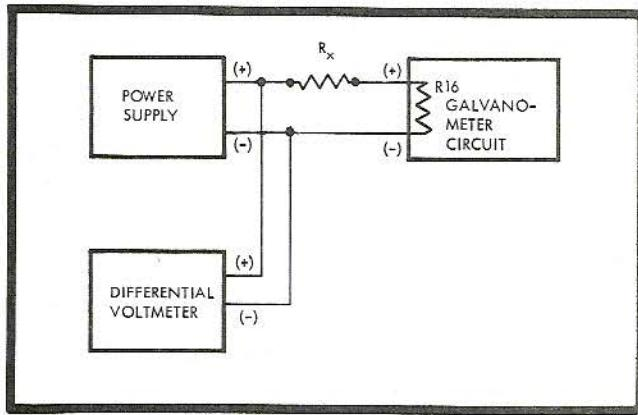
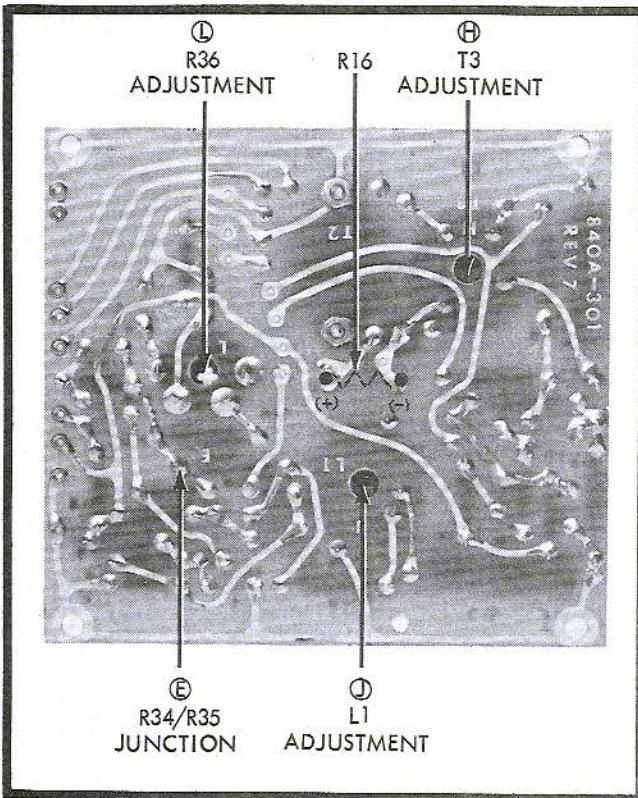

Figure 4-3. ELECTRONIC GALVANOMETER CALIBRATION
Figure 4-4. TUNED CARRIER AMPLIFIER ADJUSTMENTS
4-16. TUNED CARRIER AMPLIFIER ALIGNMENT. Remove the side cover on the galvanometer side of the Model 540B. Refer to Figure 4-4 for adjustment and connection locations. Connect equipment as shown in Figure 4-3 and use a 1 megohm $\pm 1\%$ resistor for R_x . Proceed as follows:
4-17. TUNED CARRIER AMPLIFIER GAIN. Check and readjust, if necessary, the mechanical zero of the GALVANOMETER meter. Connect the equipment as shown in Figure 4-3 and use a 10 megohm $\pm 1\%$ resistor for R_x .
- d. Connect the 885 differential voltmeter to either end of R16 and one of the T2 mounting screws (see Figure 4-4).